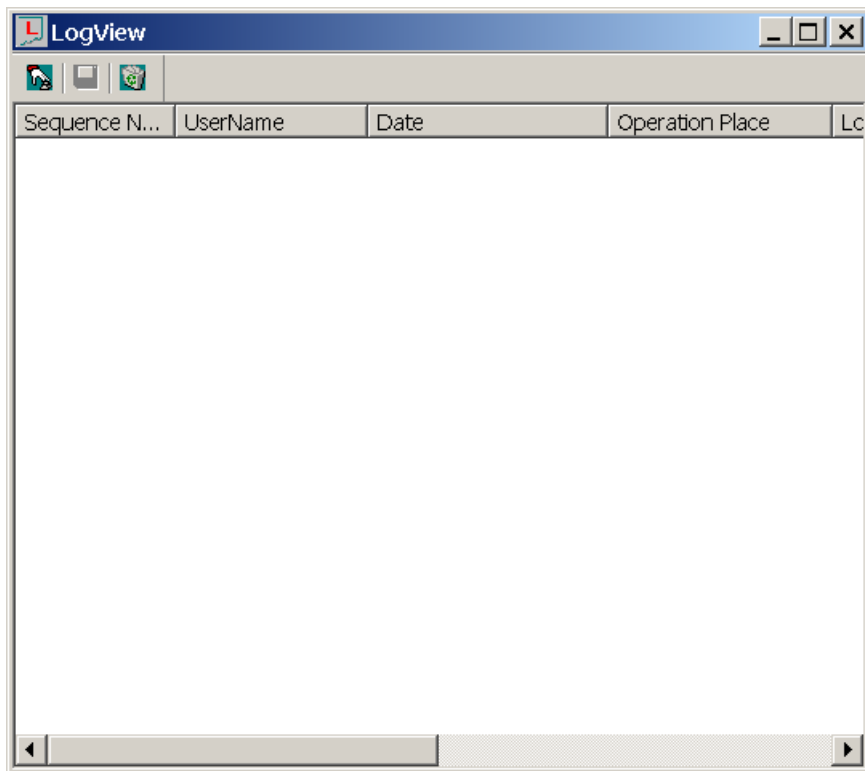

Figure 3-18 [LogView] window
- 1) In the main window of the CDR console, select [Security/Log Browse]. The [LogView] window is displayed. See Figure 3-18.